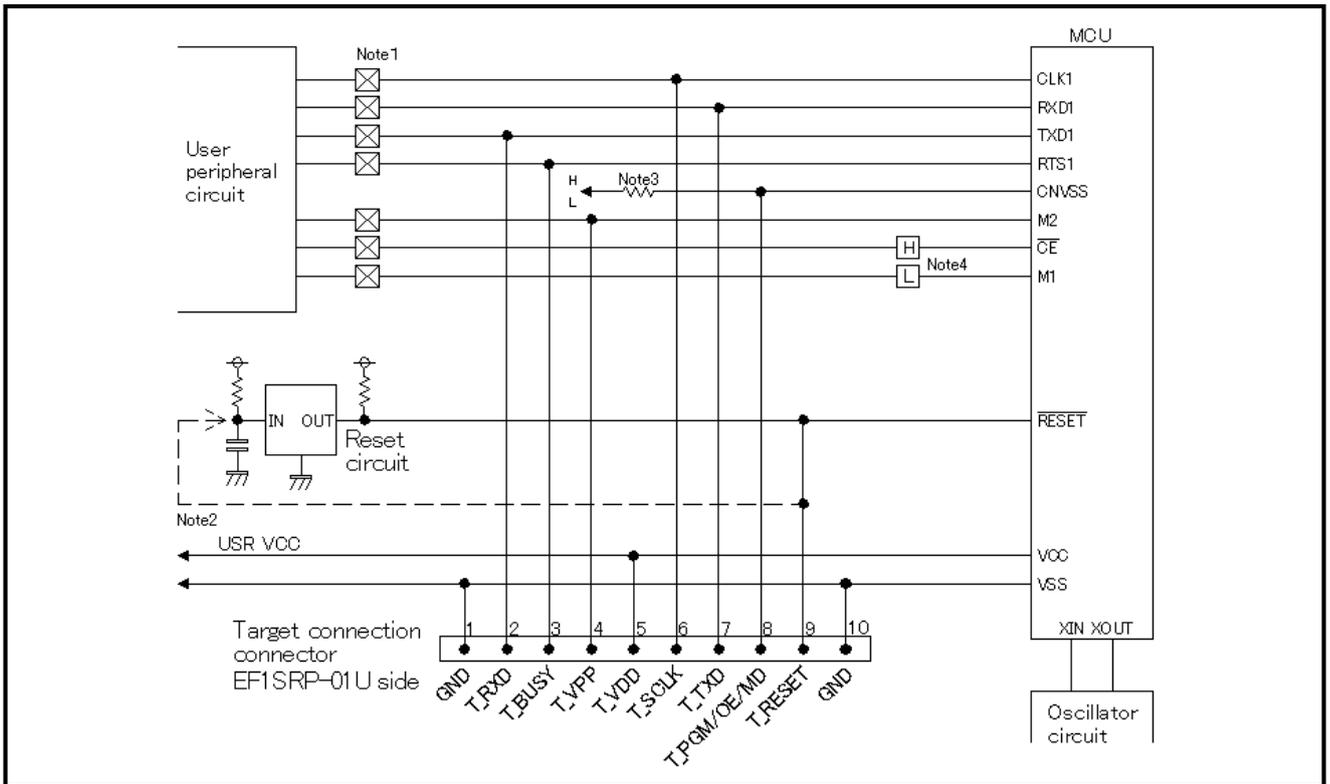

Fig. 4.1: Target MCU Peripheral Circuit Example
(1) An example of target MCU peripheral circuit when using the M16C/6H group is shown in Figure 4.1.